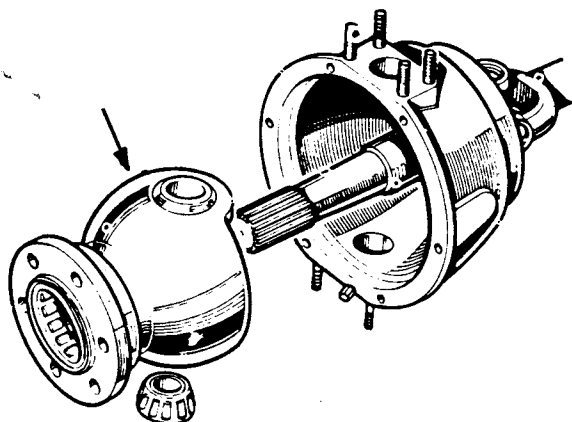

Fig J1.50
- (4) Refer to Fig J1.50. Withdraw the bearing housing and bearings.
- (5) Press the bush and bearings from the swivel pin bearing housing as required.